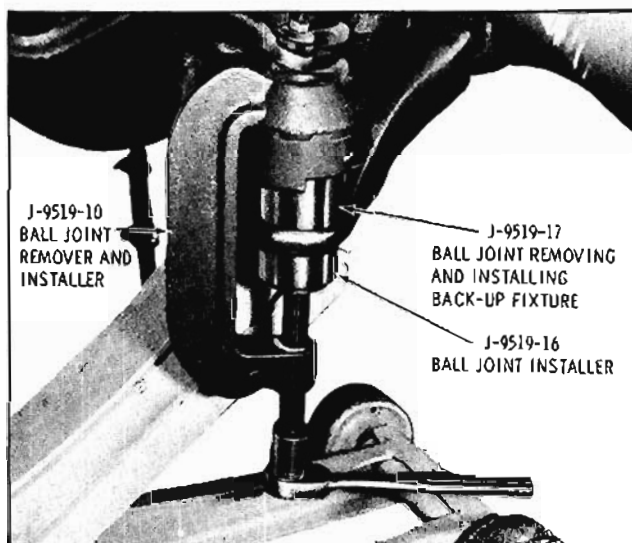

Fig. 9-121 Installing Lower Ball Joint
1. Position ball joint into lower control arm and press in until it bottoms on the control arm using tools as illustrated in Fig. 9-121.